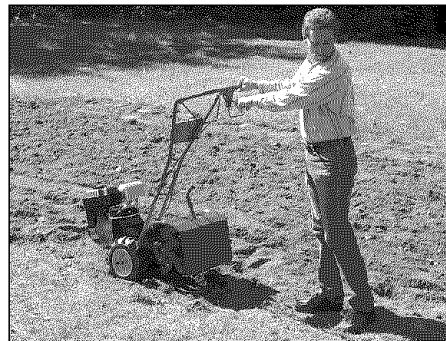

Fig. 4-3: Raise tines off ground and look behind when moving in reverse.
- (b) Stop all forward motion. Lift handlebar with one hand until tines are off the ground and then pull Reverse Clutch Control knob out (see Fig. 4-3). To stop reversing, let go of Reverse Clutch Control knob.